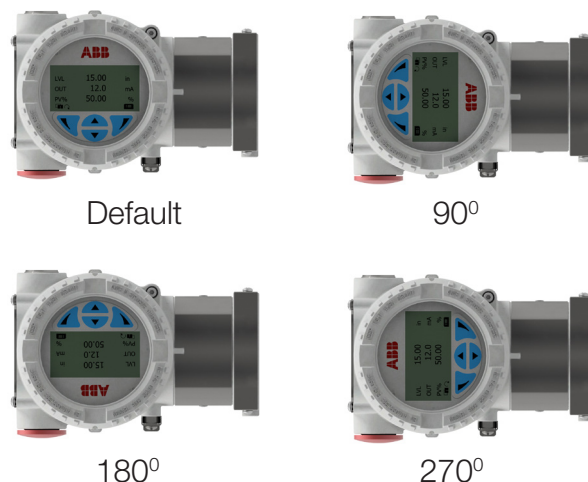

Figure 5.8 — Windowed front cover and HMI display
- This enables + 90° or + 180° rotations (see Figure 5.8).